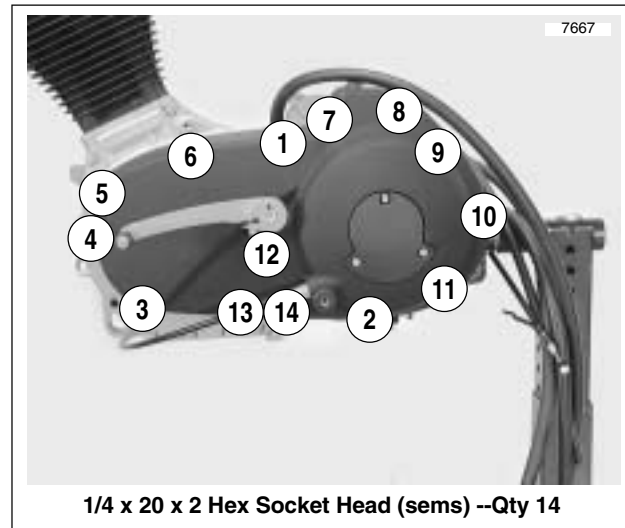

Figure 6-7. Primary Cover Tightening Sequence
3. See Figure 6-7. Install primary cover and gasket onto left crankcase half using mounting screws and tighten to 100-120 **in-lbs** (11-14 Nm) in sequence shown.